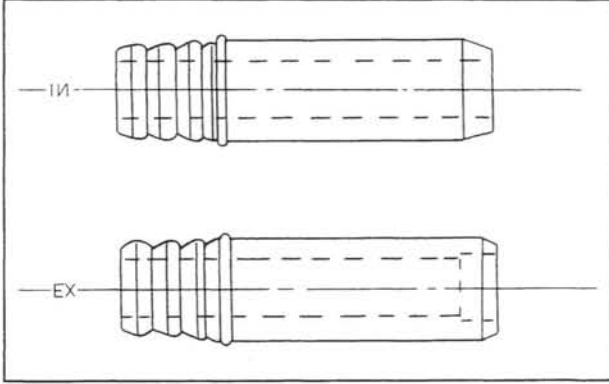

Fig. 1-15 Valve guides
**Note:** Intake and exhaust valve guides are different as shown in Fig. 1-15.